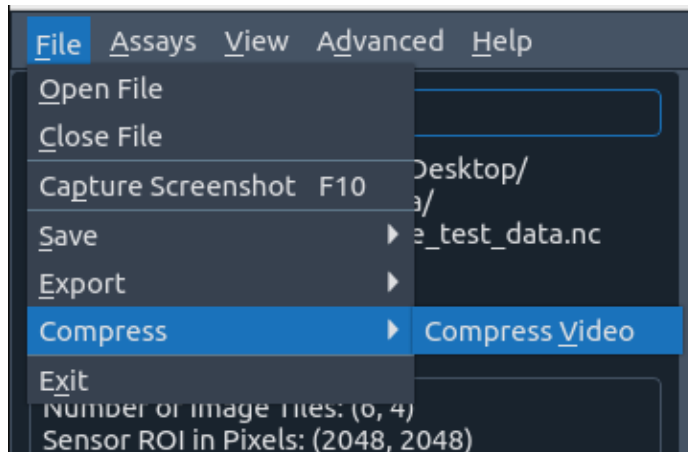

Fig 34: File menu.
- 1) Open the “Compress Video” panel within the “File” menu (Fig 34).